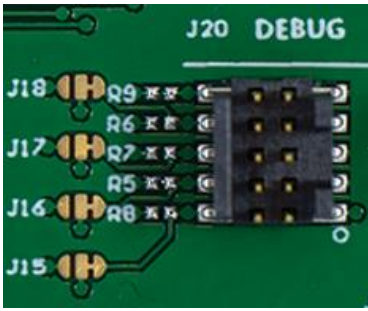

Figure 14: J20 physical layout
- An external debug unit can be attached to the J20 header connector for firmware programming and debug. J20 is implemented with a 2x5 header with 1.27 mm pitch. Figure 14 shows the physical layout of the connector.
Figure 14 shows the 2.54 mm pitch sockets exposing the IO signals on the NORA-W10 module.